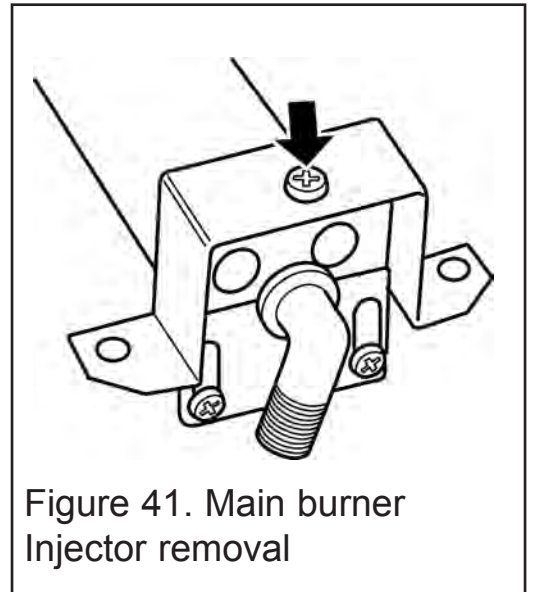

Figure 41. Main burner
(See figure 41).
2. Remove the burner clamping screw (See figure 41).